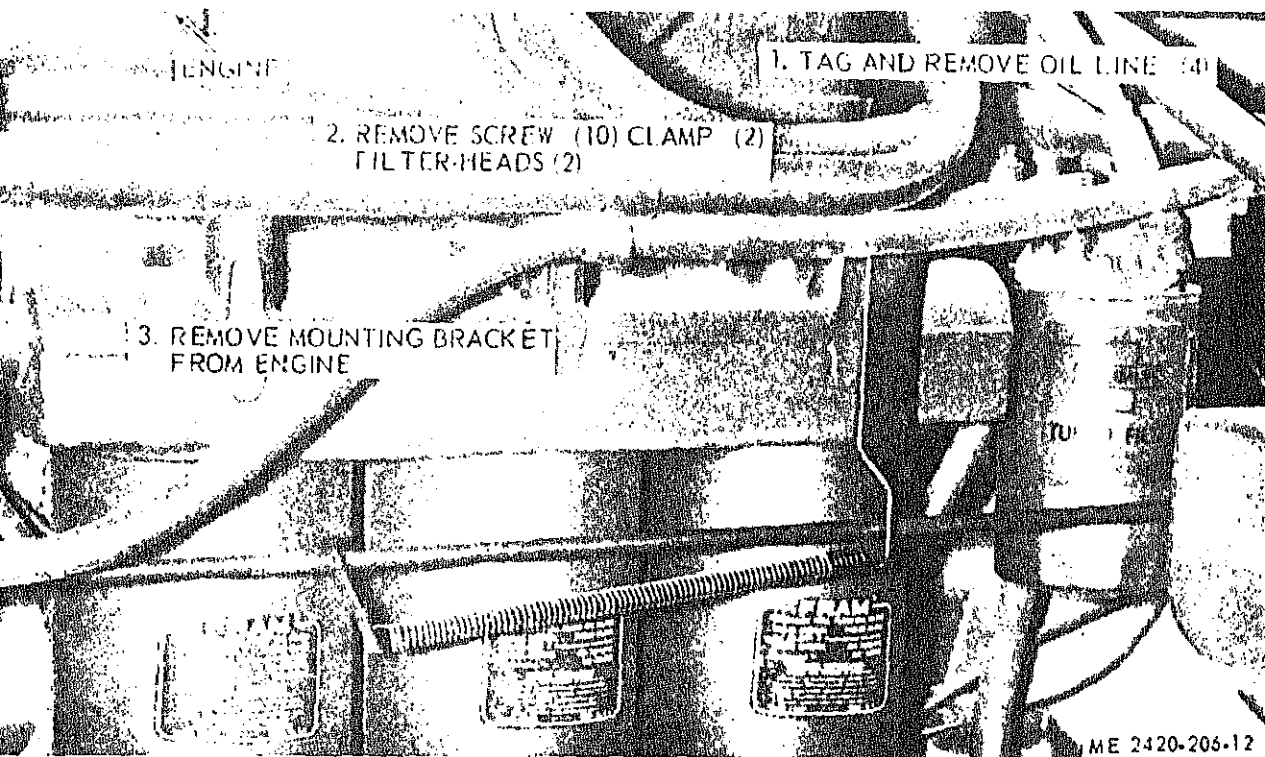

Figure 4-25. Engine and turbocharger filter head, removal and installation.
(1) Install filter heads as illustrated in figure 4-25.
(2) Install elements (para 3-5).